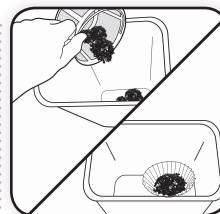

Figure 20
- 14 After the used coffee grounds have cooled, carefully open the Front Loading Brew Basket door and remove the paper or Reusable Filter and discard the grounds. (Figure 20)